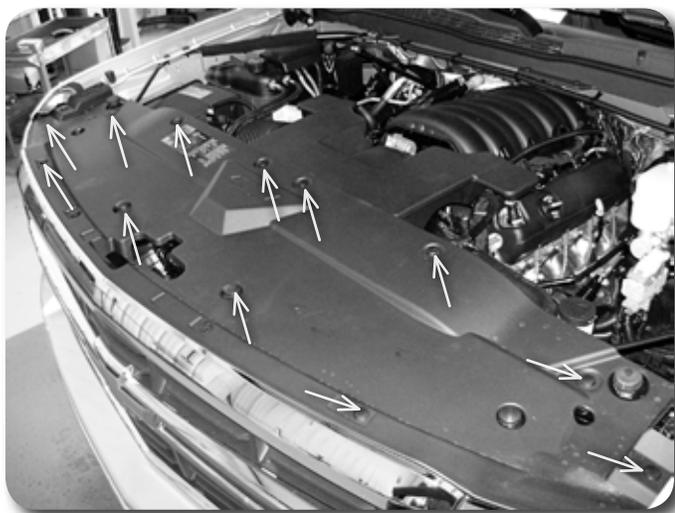

Figure 1A
1. Remove the 12 plastic retaining clips holding the upper core support cover to the core support **Figure 1A**. Pull up on the center of the clips to unlock and then pull them out of the cover. Save the cover and clips.